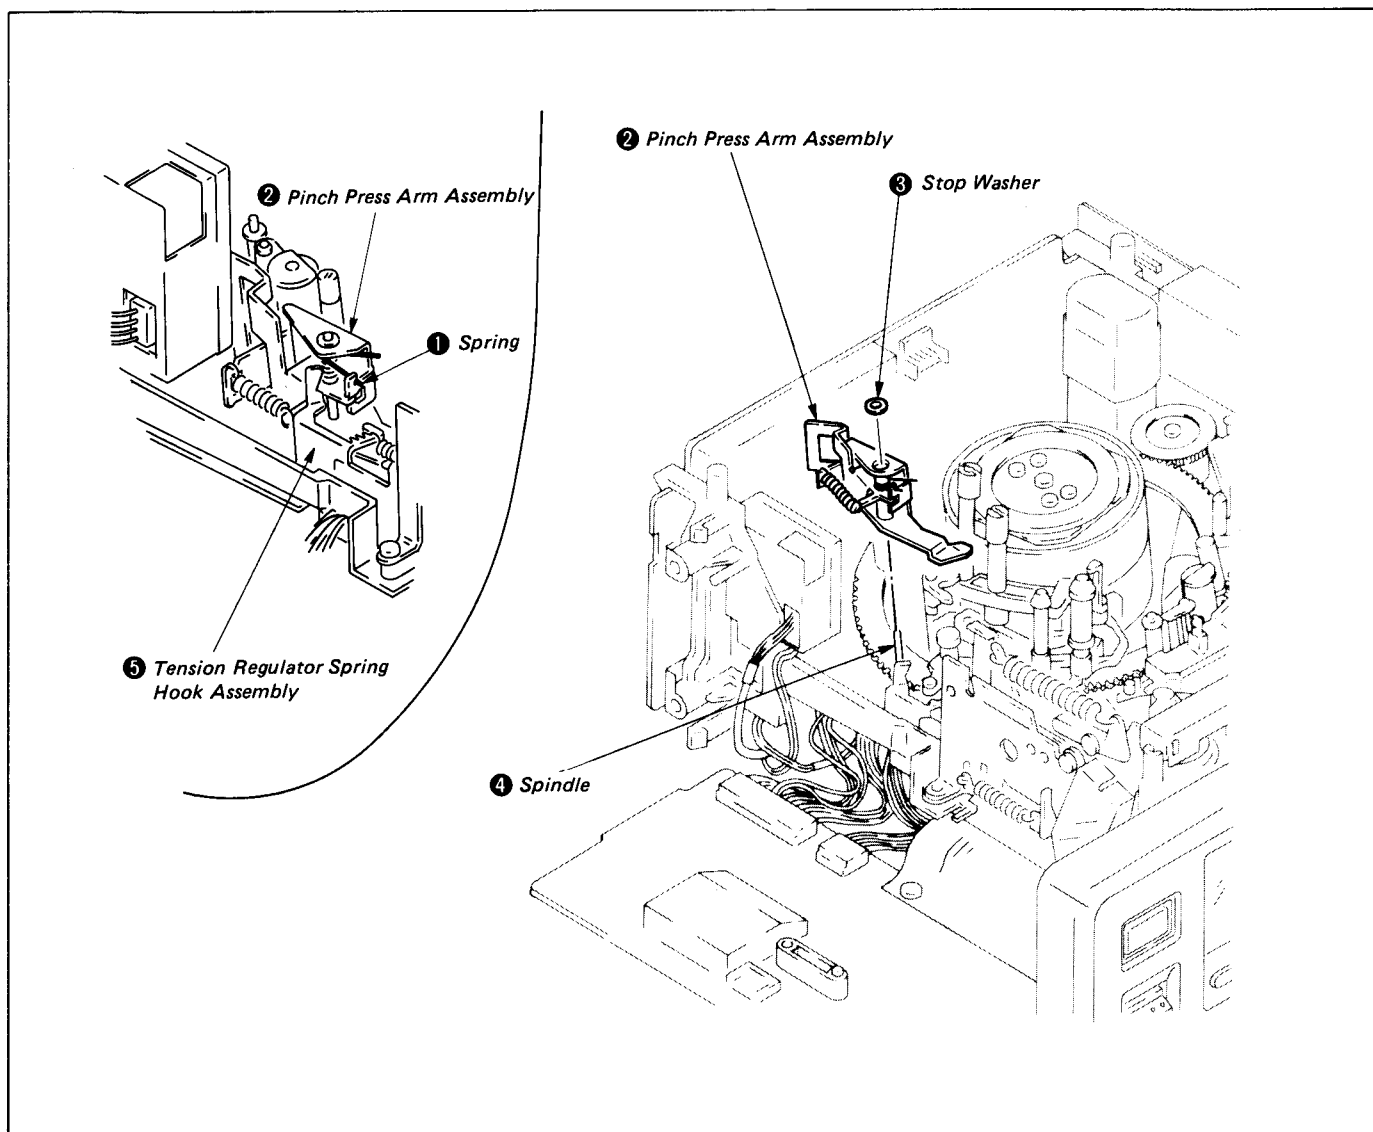

Fig. 1-10
- 1) Hook the spring ① on the pinch press arm assembly ②.
- 2) Remove the stop washer ③ and pinch press arm assembly ②. (See Fig. 1-10.)
- 1) Oil half a drop of oil on the spindle ④.
- 2) Remount the pinch press arm assembly ② and stop washer ③.
- 3) Rehook the spring ① on the tension regulator spring hook assembly ⑤. (See Fig. 1-10.)